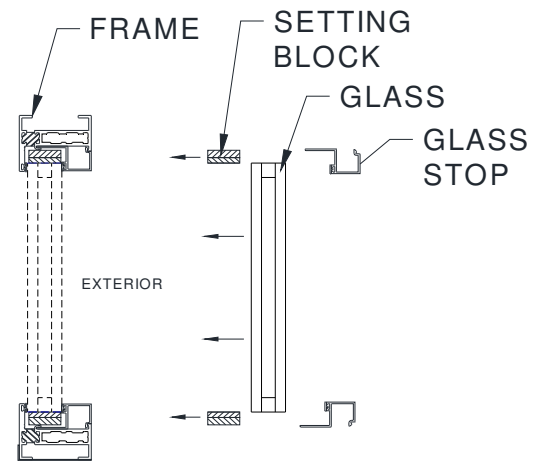

Figure 19:
- Install glass setting blocks at 1/4 points into the top, bottom, and sides of the frame (Figure 19).